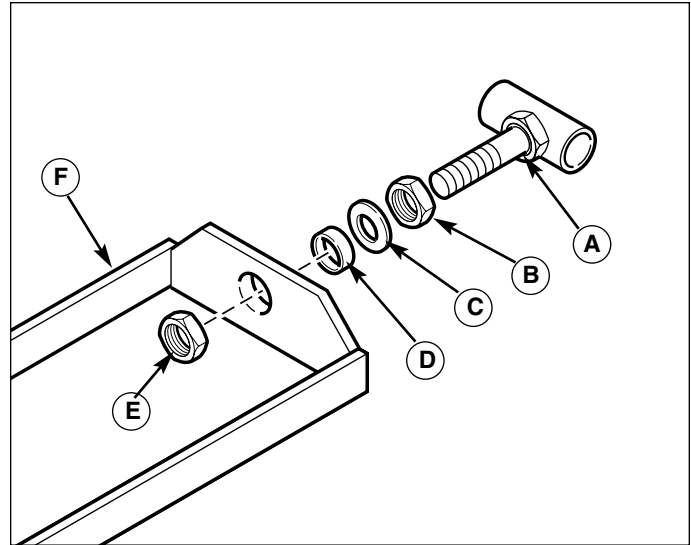

Figure 12. Attaching Push Bar Support to Hitch
1. Assemble the push bar support (A, Figure 12) and hitch (F) using the hardware shown in Figure 12. Do not tighten the 5/8-11 nuts (B & E).
2. Hand tighten the rear 5/8-11 nut (B, Figure 12) until it contacts against the back of the rear push bar. Tighten the front nut (E) tight against the spacer.